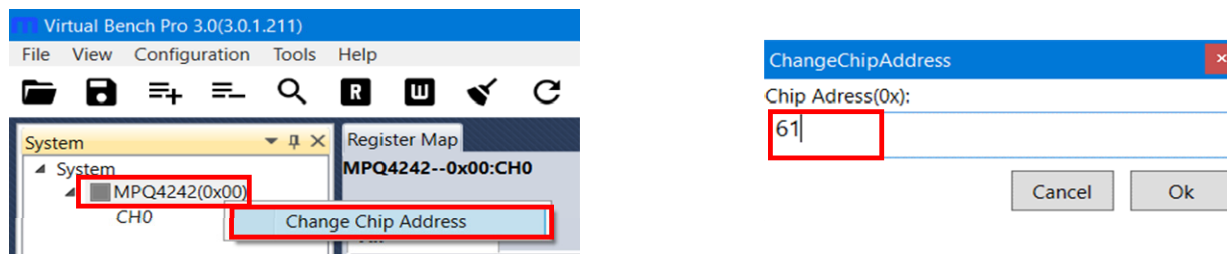

Figure 4: Change the Chip Address
6. Right-click on “MPQ4242,” then change the chip address to 61 (see Figure 4).